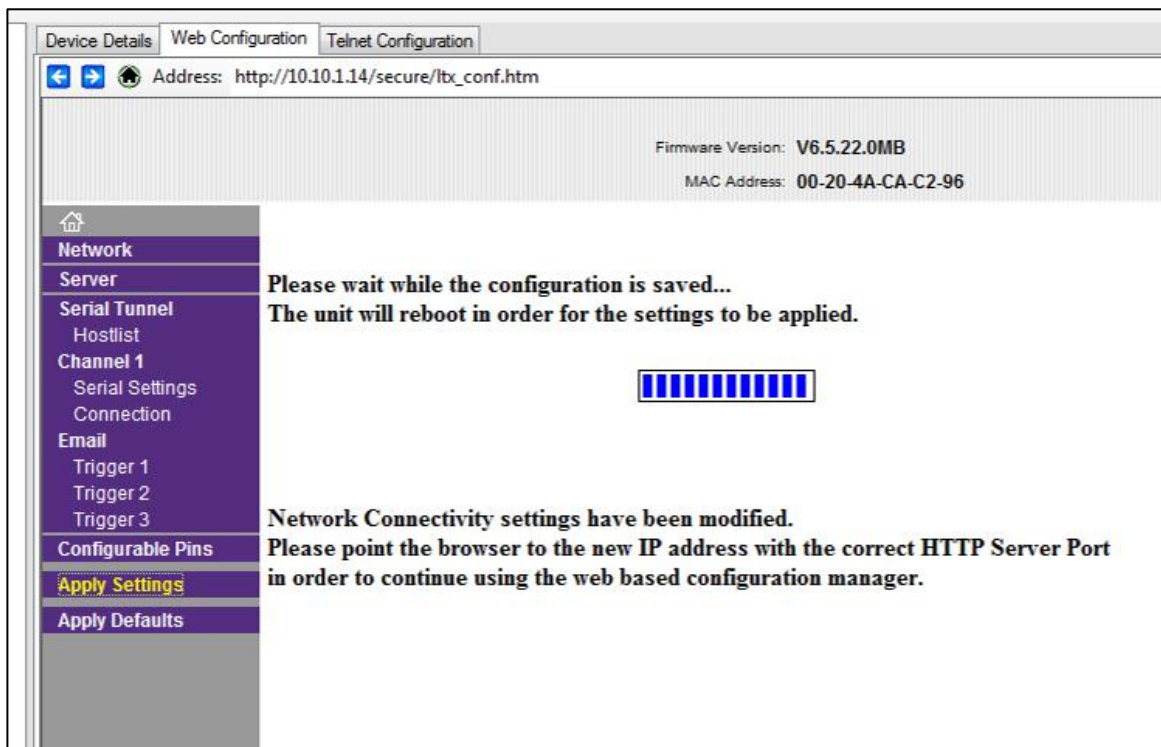

Figure 4-12 Apply Settings
8. Select **Apply Settings** link to save the setting to the RS485 Ethernet Adapter as shown in Figure 4-12.